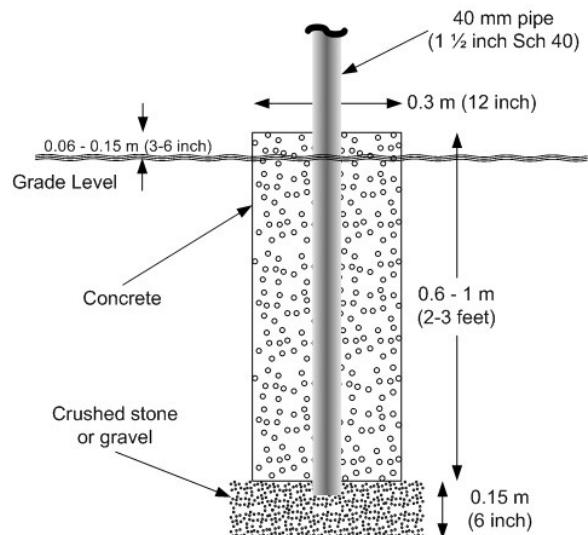

Figure 2.1.2-1 Site Preparation – Concrete Footer
- **Support Structure** - If the sensor is to be installed as a stand-alone instrument, prepare a concrete footer as shown in Figure 2.1.2-1. It is recommended that depth of the concrete footer is below the frost line to avoid heaving. When preparing for the concrete footer also plan for earth grounding, power wiring, and signal wiring.
- The Sentry™ may also be installed on an existing structure such as a triangular tower using a boom arm structure. The boom arm should extend at least 1 m (3 ft) out from the side of the tower to reduce water or snow dripping from the upper portions of the tower into the sensing volume of the sensor. The boom arm may be made from 1 inch or 1-1/2 inch Schedule 40 pipe as shown in Figure 2.1.2-2. *Check your sensor model number - if it ends in "P", your sensor is equipped with a 1" nominal pipe flange and you must use 1-inch pipe for the mounting arm. Otherwise, use 1-1/2 pipe.* The boom arm structure should be attached to the side of the triangular tower with U-bolts or similar hardware. When selecting which side of the tower to use, make certain that the sensor sample volume is facing away from the tower and not over the boom arm while still aligning the receiver optics facing in a northerly direction or parallel with the roadway.